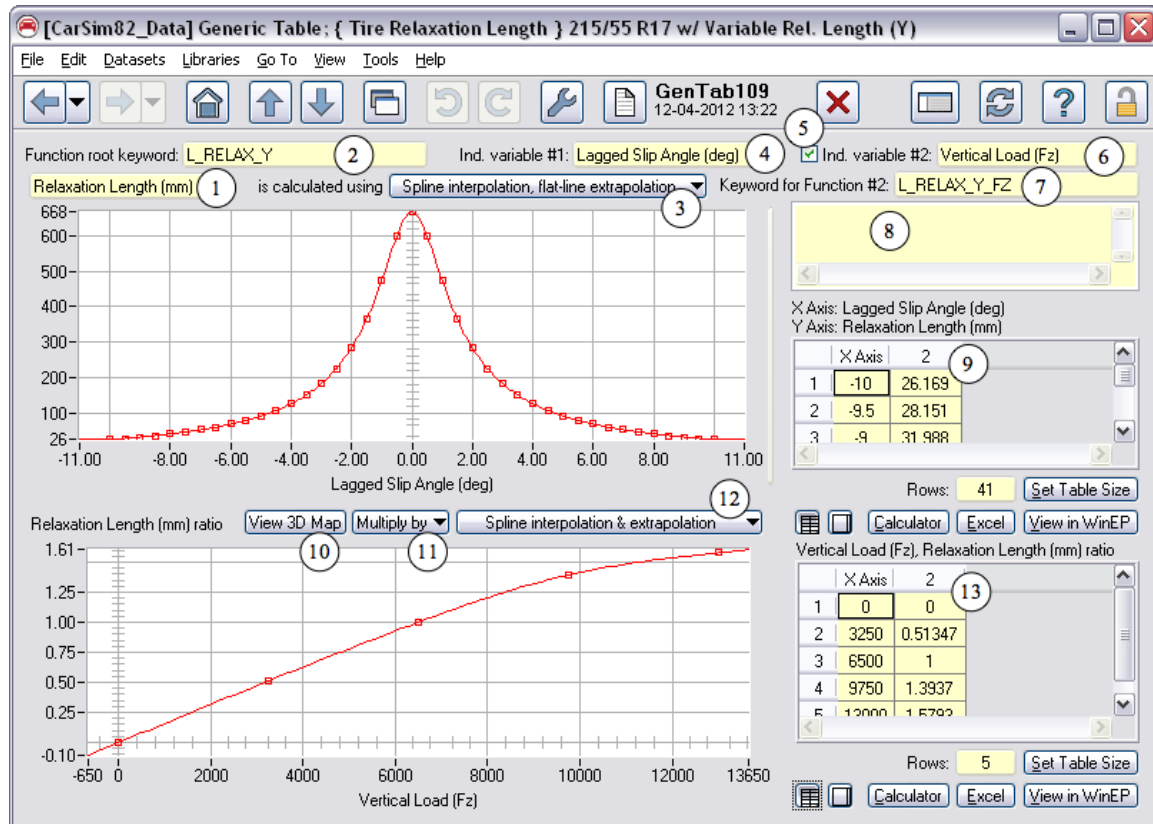

Figure 3. The **Generic Table** screen.
Figure 3 shows how the **Generic** Table screen might be used for the configurable function that defines tire lateral relaxation length.
1. If a constant or linear coefficient is chosen, the table and plot are hidden and a yellow data field is shown for providing the single value (constant or coefficient). If the checkbox for a second variable is also checked (5), then settings are shown in the lower part of the screen for handling the sensitivity to the second independent variable (6).
2. If an interpolation method is chosen that is not 2D, then a table is shown (9) for entering pairs of numbers (X and Y axis, Figure 3) and a plot is shown. If the checkbox for a second variable is also checked (5), then settings are shown in the lower part of the screen for handling the sensitivity to the second independent variable (6). 2D interpolation options are visible only when the second variable option is checked (5).
- (7) Root name of secondary function used to calculate the influence of the secondary variable. For the example shown in Figure 3, this is L\_RELAX\_Y\_FZ. This field is shown whenever the drop-down control (12) is visible; otherwise, it is hidden.
- (8) Miscellaneous field. Use this to provide VS commands or parameters to define the context of the data. For example, you might put in the line IAXLE 2 to associate the dataset with the second axle suspension in the math model.
- (11) Drop-down control to define how the secondary function is combined with the primary function (Figure 3). This control is shown when the adjacent drop-down list of methods is
- ⑫ Drop-down list of calculation methods for the secondary function (Figure 3). This control is shown only when the calculation method selected for the primary function ③ is not 2D interpolation or equation, and the box is checked for a second independent variable ⑤. The list of options covers all of those in the top drop-down list ③, with the exceptions of the 2D methods and the equation option.
- ⑬ Numerical values used to create a 1D table. Values of the secondary independent variable go in column 1. If the primary and secondary functions are added (as chosen with the drop-down control ⑪), then values of a component of the dependent variable go in column 2. On the other hand, if values of the two functions are multiplied together, then values of a ratio go in column 2 (e.g., Figure 3).